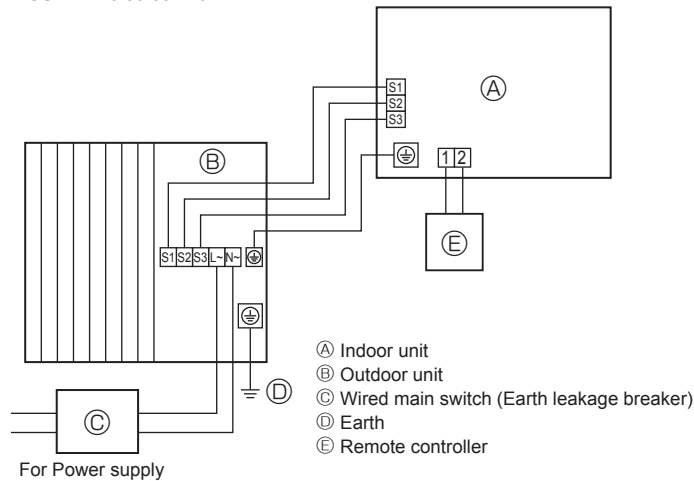
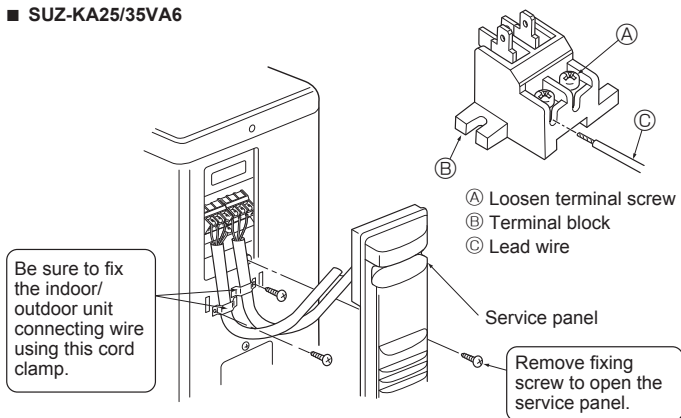
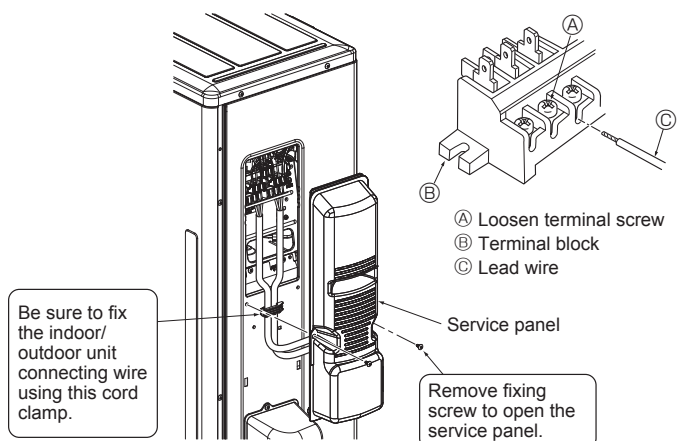

Fig. 6-1
Fig. 6-3
Fig. 6-4
6.1. Outdoor unit (Fig. 6-1, Fig. 6-2, Fig. 6-3, Fig. 6-4)
- ① Remove the service panel.
- ② Wire the cables referring to the Fig. 6-1, Fig. 6-2, Fig. 6-3 and the Fig. 6-4.